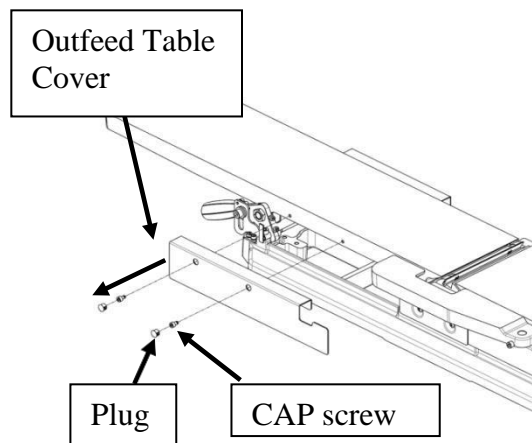

Fig. 37: Cover
**STEP 2:** Remove the plugs and loosen CAP screws to release and remove outfeed table cover as in **FIG. 37**.